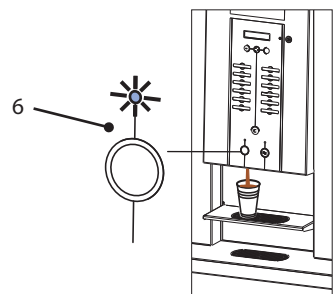

Fig. 25
With the quick recipe (fig. 25) you can easily adjust the volume and the strength of the used ingredients such as coffee, milk (topping), cocoa and/or sugar for each drink (recipe).
1. Open the operator menu (fig. 25)
3. Place the canister(s) back into the machine in the right order. Make sure that the drive mechanism of the canister falls over the cog in the back wall and that the fastening ridge goes into the hole of the plate (fig. 25).